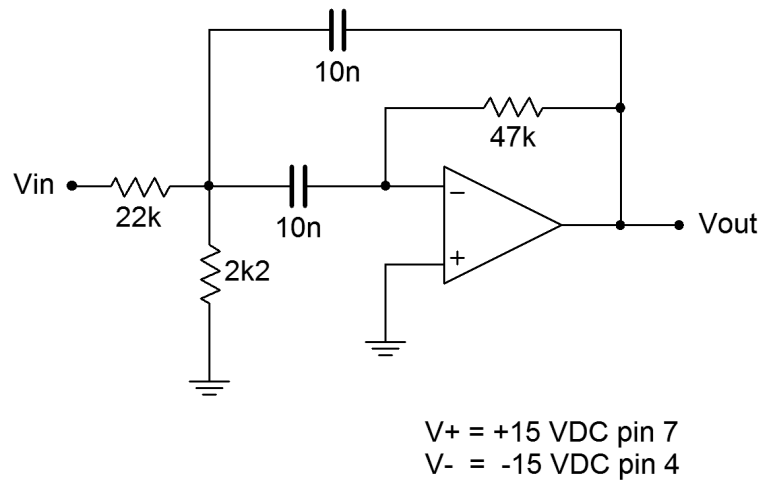

Figure 1
1. The circuit of Figure 1 is a second order band pass filter. Calculate and record the center frequency (f_0) and mid-band voltage gain in Table 1.
2. Assemble the circuit of Figure 1 using the medium speed op amp.
8. Build the circuit of Figure 1 in a simulator and run an AC Analysis. Be sure to run the plot from 10 Hz to approximately 100 kHz and use a decibel scale for the gain amplitude. Compare the plot to the graph generated from Table 2.